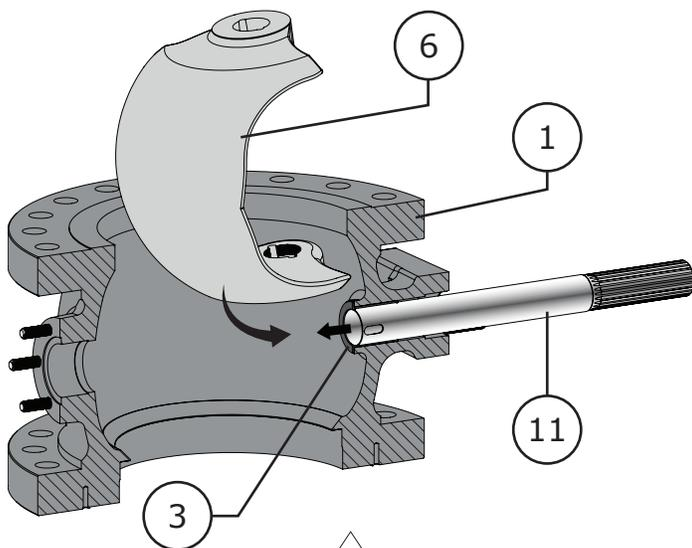

Figure 49 16 Inch Drive Shaft / Ball Installation Step 2
- 2 Insert the drive shaft (Key 11) in to the valve body (Key 1) through the inboard bore as shown in Figure 49. The drive shaft should sit inside the bearing (Key 3) ready to be pushed in to the inboard ear of the ball (Key 6).